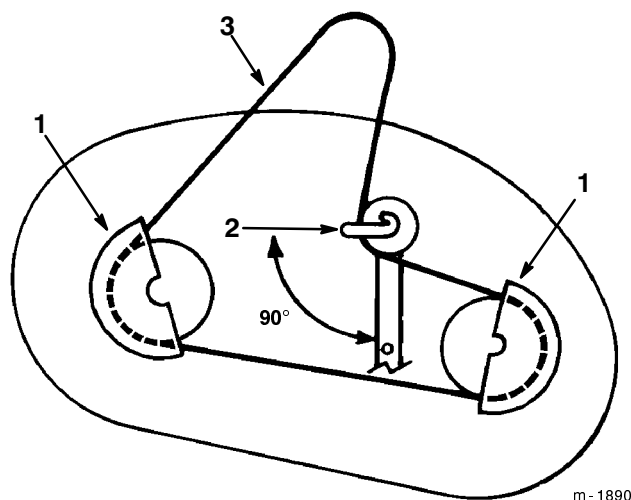

Figure 46
2. Remove the pulley cover mounting screws and pulley covers from both blade pulleys (Fig. 46).
3. Loosen, but do not remove, the bolt and nut securing the idler pulley and belt guide (Fig. 46).
2. Position the idler pulley belt guide so it points toward the left, 90° to the idler arm (Fig. 46). Tighten the mounting bolt and lock nut securing the idler pulley and belt guide.
3. Install the left and right pulley covers with the mounting screws (Fig. 46).